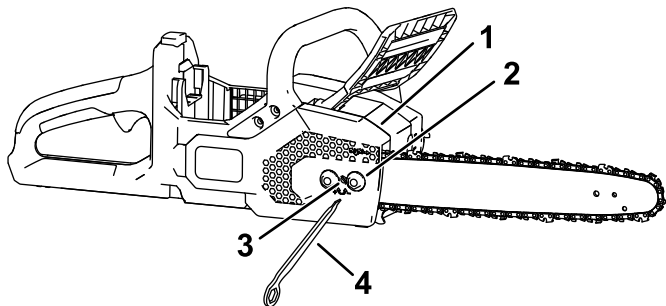

Figure 31
5. Using the onboard multitool, loosen the captive nuts on the side cover, but do not remove it (Figure 31).
7. Using the onboard multitool, adjust the chain tension, and then secure the side cover to the chain saw by tightening the captive nuts (Figure 31).
2. Remove the side cover by loosening the 2 captive nuts that secure the cover (Figure 31).
3. Loosen the chain by turning the chain-tightening screw counterclockwise (Figure 31).